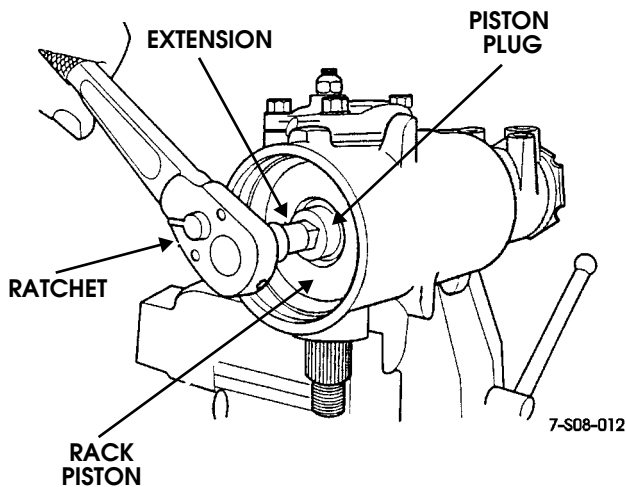

Figure 8-38: Rack Piston Plug Removal
2. Remove rack piston plug (Figure 8-38). Use a ratchet and socket extension to remove the plug as shown.